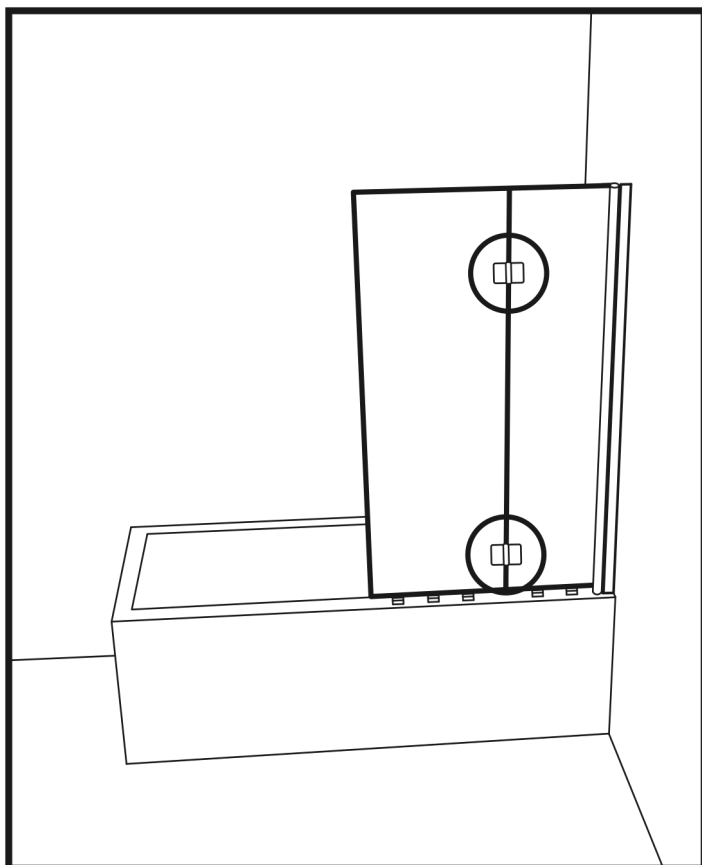

Figure 10
18. Take the larger glass from the package and carefully lift it onto the edge of the bathtub, onto the wooden blocks. (Fig 10)